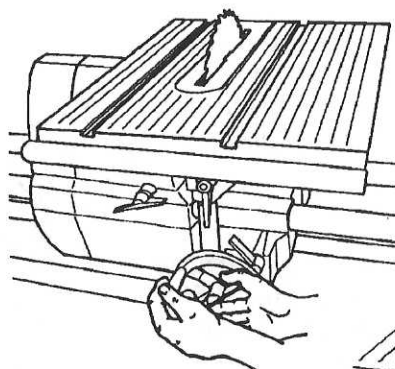

Fig. B-62
24. Lower the worktable (but not all the way down) so the saw blade comes through the slot. Lock the table height, as seen in Fig. B-62.